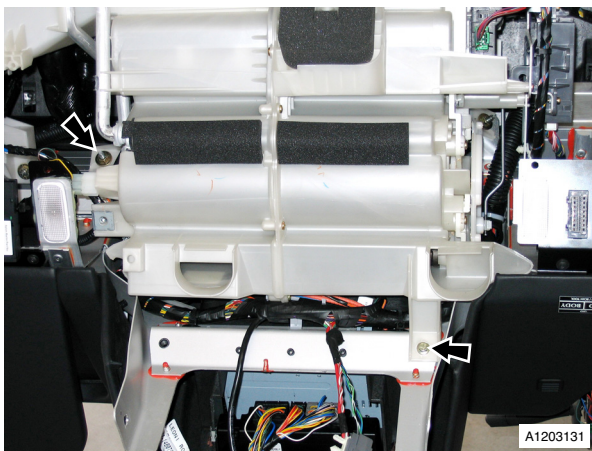

Fig. 2
5. Remove bolt and nuts (x2) securing heater unit to IP (see Fig. 2).